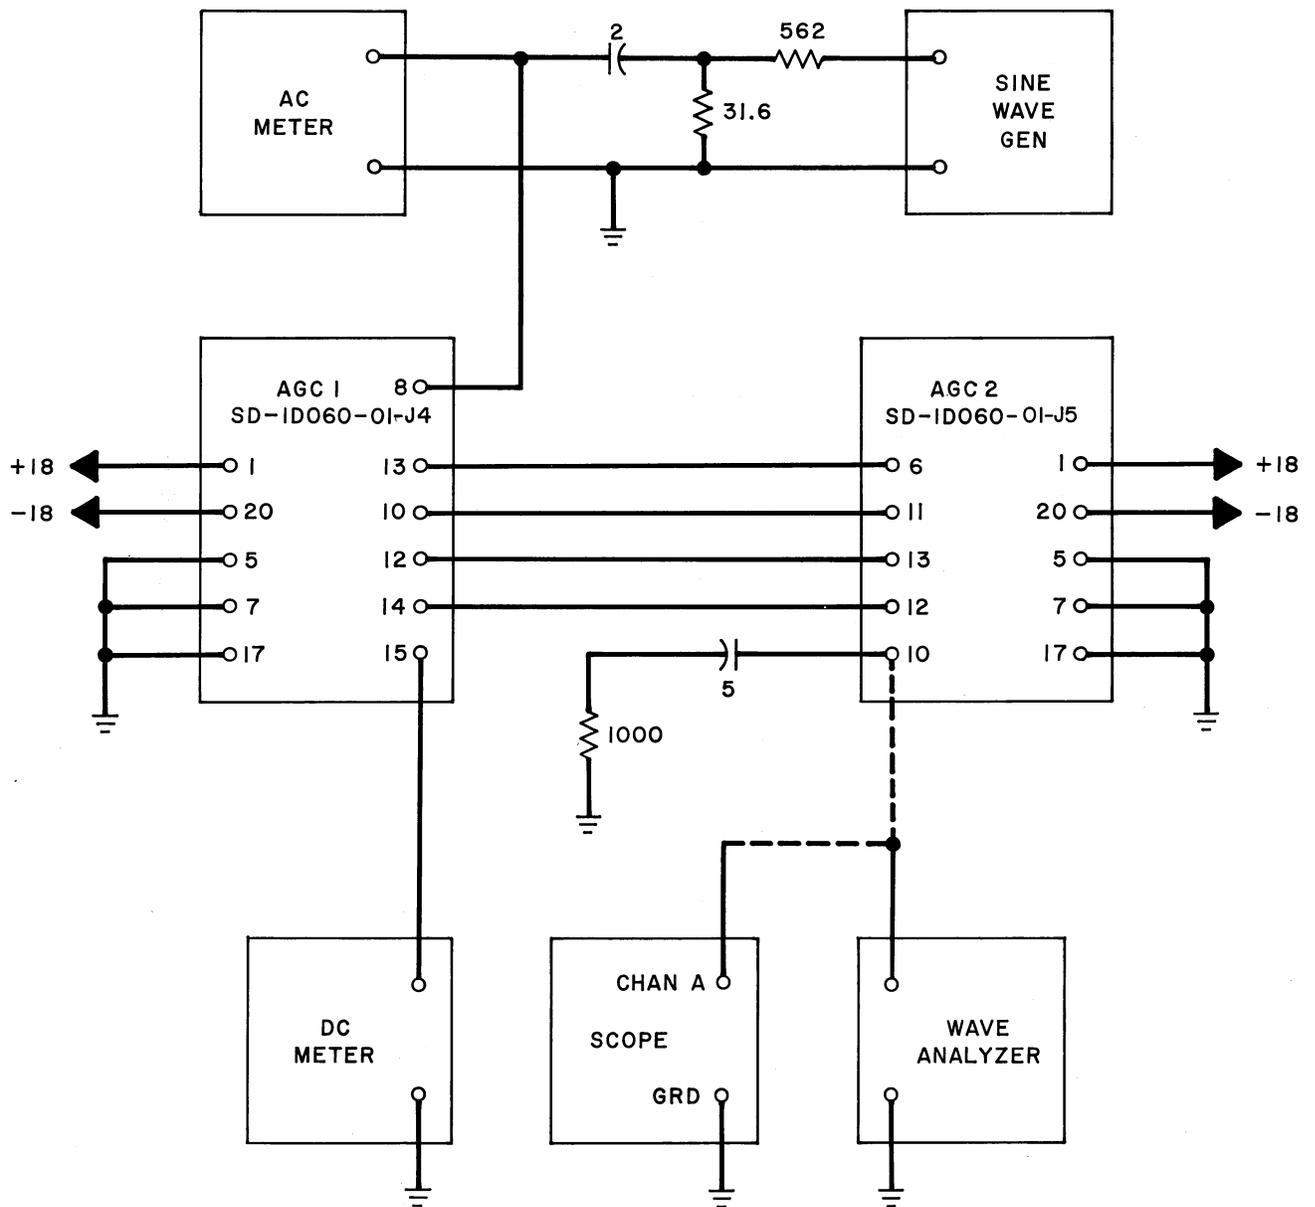

Fig. 15 - (Automatic Gain Control 1 Test)
(1) The gain control test of the AGC1 card is made in conjunction with an AGC2 card. Connect the cards, as in the suggested test circuit shown in Fig. 15, with the scope connected to terminal 10 of the AGC2 card. Connect power to both cards as specified in 10.20 (a).
- (2) Connect the sine-wave generator in series with a 2-uf capacitor to terminal 8 of the AGC1 card. Set the frequency of the generator to 1800 cps ± 5 per cent. Set the output level of the generator to 0.
- (3) Slowly increase the output level of the generator until the carrier detector voltage on terminal 15 of the AGC1 card switches to $+6.6 \pm 0.8$ volts dc. The input voltage between terminal 8 and ground of the AGC1 card shall be 13.5 ± 0.9 mv rms. Record the input level.
- (4) The output wave form on terminal 10 of the AGC2 card shall be a sine wave of amplitude 2.5 ± 0.3 volts peak-to-peak.
- (5) Increase the input signal level between terminal 8 and ground of the AGC1 card to 78 ± 1 mv rms. The output level on terminal 10 of the AGC2 card shall be a sine wave of amplitude 2.5 ± 0.3 volts peak-to-peak. The voltage on terminal 15 of the AGC1 card shall be $+6.6 \pm 0.8$ volts dc.
- (6) Increase the input signal level between terminal 8 and ground of the AGC1 card to 450 ± 5 mv rms. The requirements are as specified in (5).
- (1) The distortion measurement of the AGC1 card is made in conjunction with the AGC2 card. Connect the cards, as in the suggested test circuit shown in Fig. 15, with the wave analyzer connected to terminal 10 of the AGC2 card. Apply power to both cards as in 10.20 (a).
- (2) With the wave analyzer connected to terminal 10 of the AGC2 card, apply a 78 ± 1 mv rms signal at 600 cps ± 5 per cent to input terminal 8 of the AGC1 card.